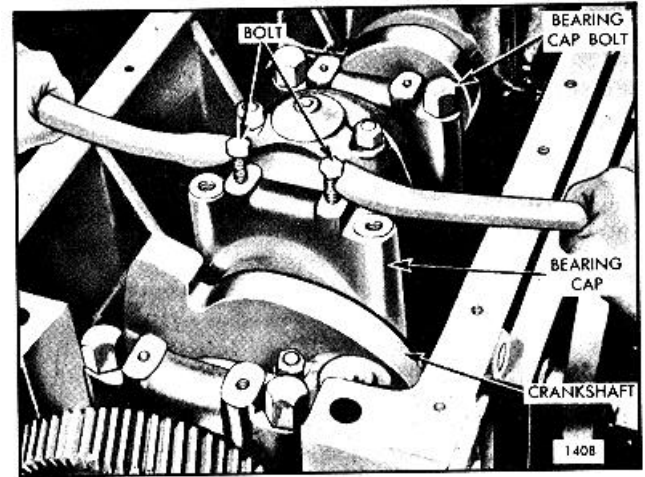

Fig. 2. Removing Main Bearing Cap
3. Remove one main bearing cap at a time (Fig. 2) and inspect the bearing shells as outlined under *Inspection*. Reinstall each bearing shell and bearing cap before removing another bearing cap: